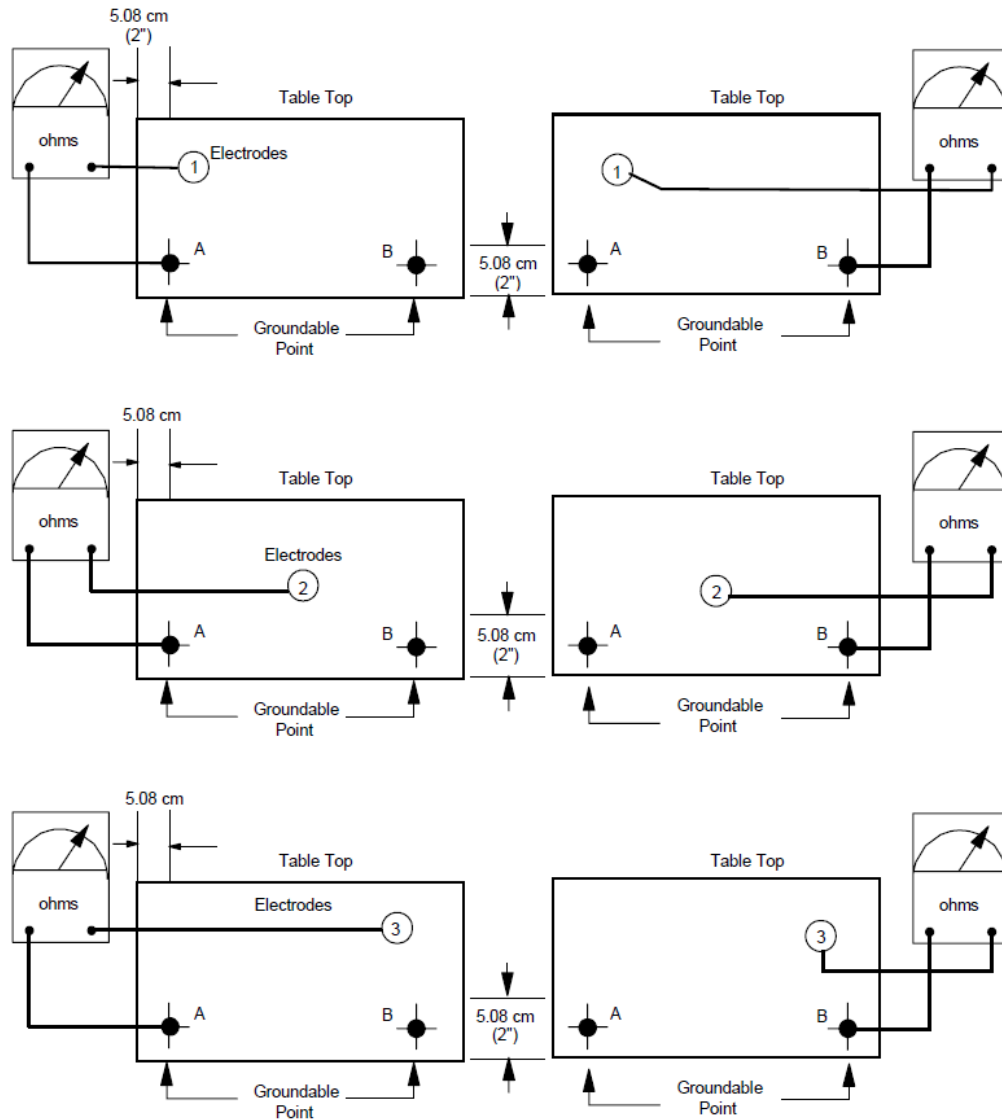

Figure 1 – Resistance to Groundable Point Testing
2. Place the electrode at position 1. Set the meter output to 10 volts and initiate a resistance measurement. If the resistance is less than 1×10^6 ohms record the value. If the resistance is greater than 1×10^6 ohms set the meter output to 100 volts and repeat the measurement. Record the resistance once the reading stabilizes. (See Figure 1)